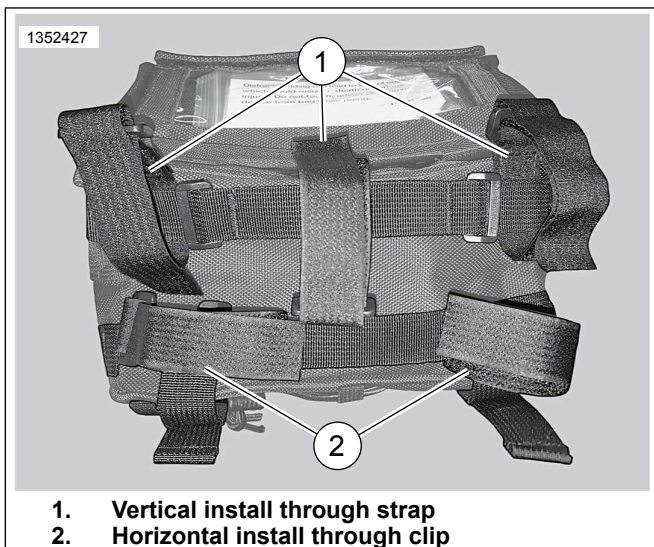

Figure 2. Hook-and-Loop Attachment Options
1. Figure 2 Attach a minimum of four hook-and-loops to back of bag.